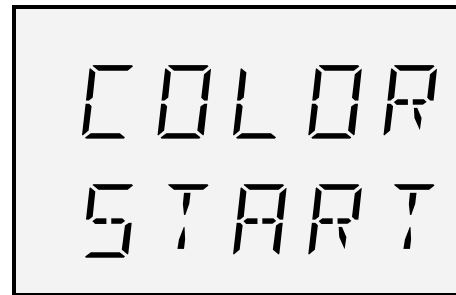

Fig. 13: View "colour light start"
7. Exit the menu using the **◀** key. The view "colour light start" (Fig. 13) is displayed.